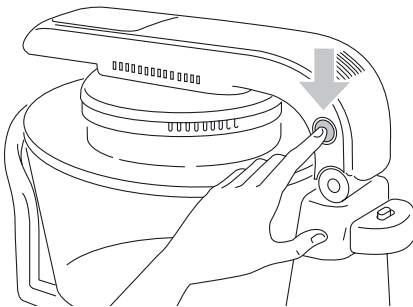

Fig.6
3. Plug the power cord into an electrical outlet. Turn on the power switch at the back of unit as illustrated in Fig.6.